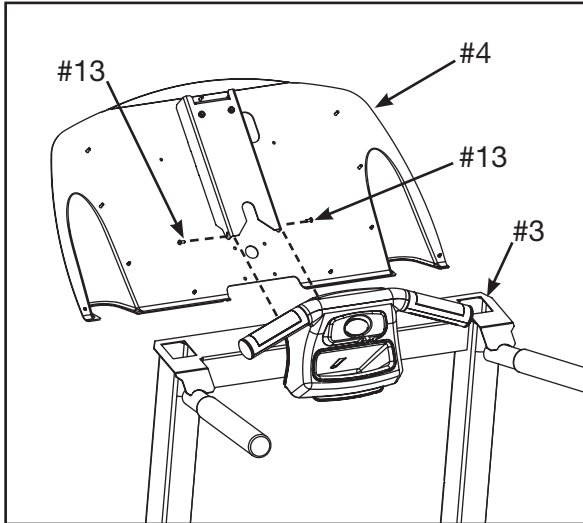

Figure 5
- B.** Place the console back (#4) in the correct position on the upright assembly (#3). See Figure 5.
- C.** Using a Philips head screwdriver install two screws 8-32 x .38" (#13) to hold the console back (#4) in place. Do not fully tighten at this time. See Figure 5.